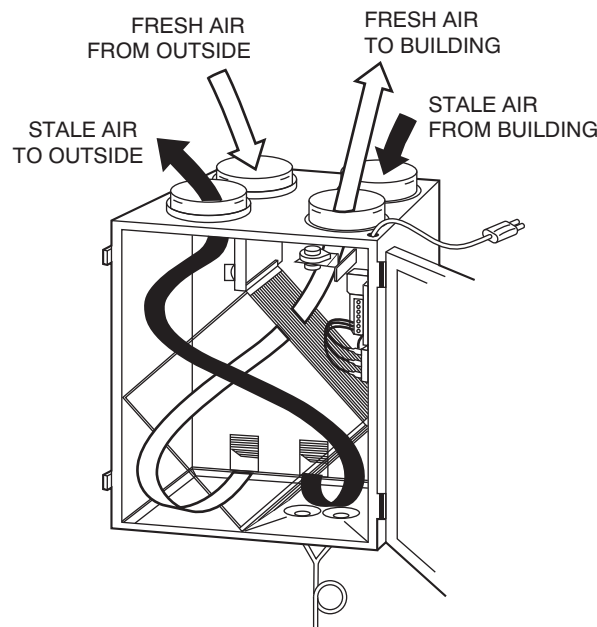

Fig. 3 - Vertical Application
5. Examine the condensate drain pan to ensure drains are functioning properly. Gently clean tray with mild soapy water. (See Fig. 3 and 4).